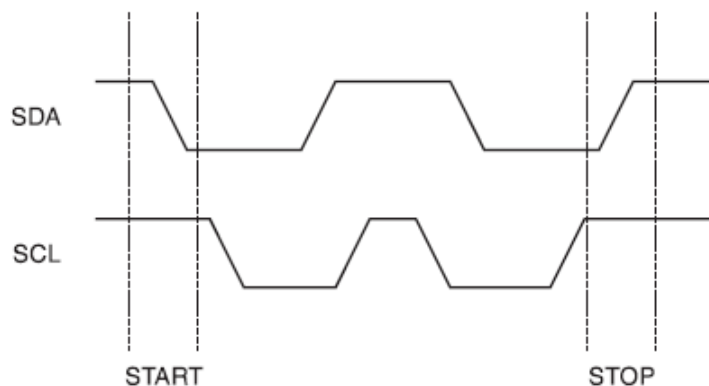

Figure 2: Start and Stop Definition
- ✧ CLOCK and DATA TRANSITIONS: The SDA pin is normally pulled high with an external device. Data on the SDA pin may change only during SCL low time periods (Figure 2). Data changes during SCL high periods will indicate a start or stop condition as defined below.